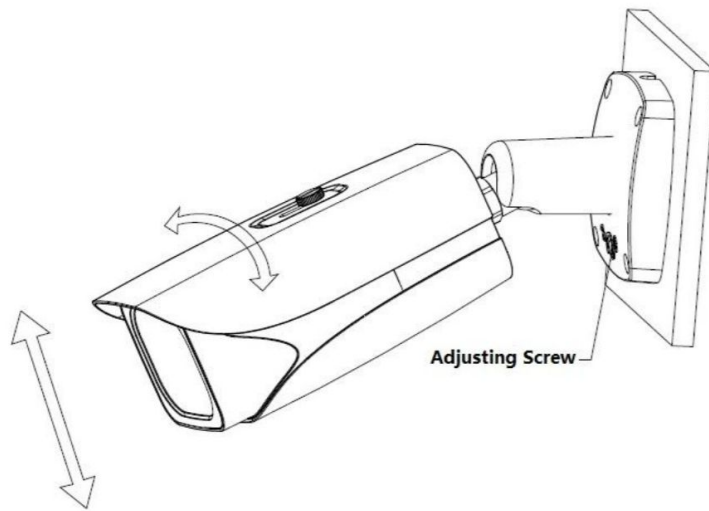

Figure 2-3
**Adjusting the mounting position of the camera:** Locate the adjustment screw in the base of the camera. Loosen the screw to reposition the camera as needed. Tighten down the adjustment screw after you have set the camera to the desired position. See Figure 2-3.